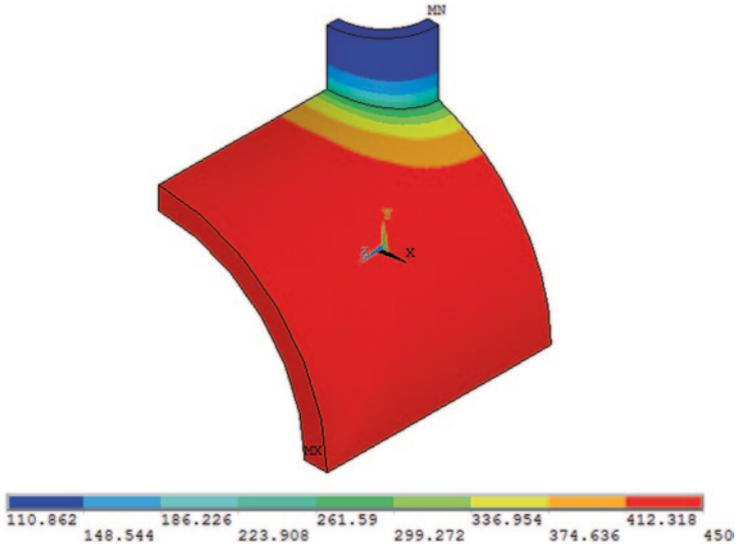

Fig. 9.26 Contour plot of temperatures
- The temperature contour plot is shown in Fig. 9.26 as it appears in the *Graphics Window*.